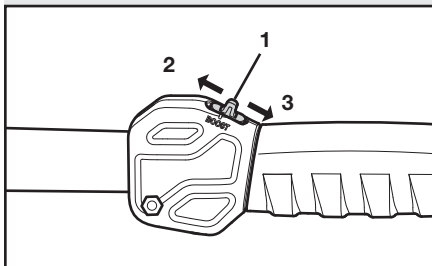

Fig. 5
The power control button (1) allows the operator to switch between Boost (2) and Eco (3) modes, as needed (Fig. 5):
Push the power control button forward for Boost mode (Fig. 5). Push the power control button back to return to Eco mode (Fig. 5).